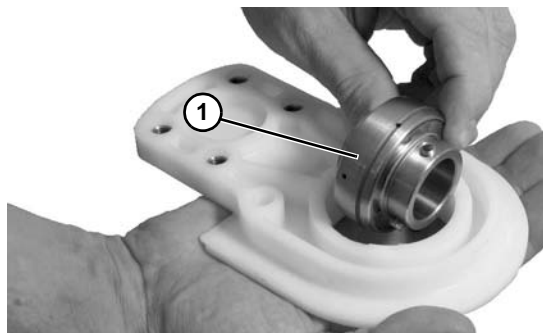

Figure 85
2. Twist the bearing out (**Figure 85, item 1**).